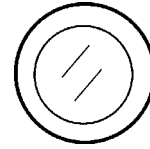

Figure 39. Pre-Heat Button
1. In cold weather conditions, press and hold the **pre-heat button** (Figure 39) for at least 50 seconds to warm the engine glow plugs.